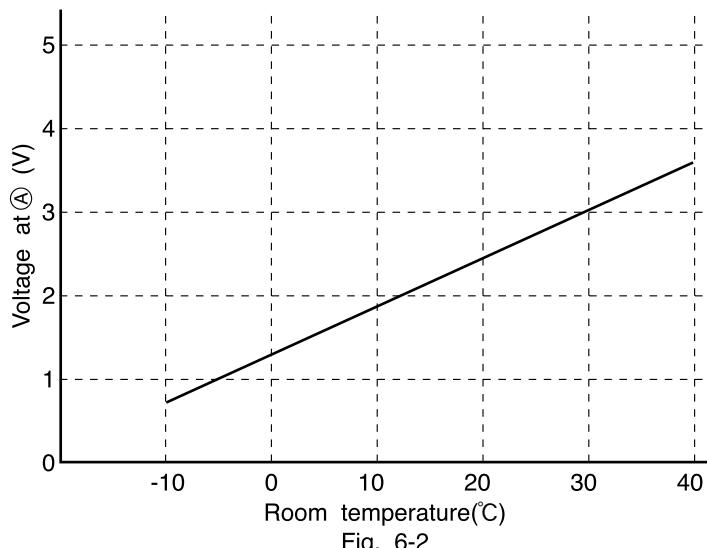

Fig. 6-2
- (1) Preheating.
- (2) Low-temperature defrosting during cooling and dehumidifying operation.
- (3) Detection of the reversing valve non-operation or heat exchanger temperature thermistor open.
The voltage at ④ depends on the heat exchanger temperature as shown in Fig. 6-2